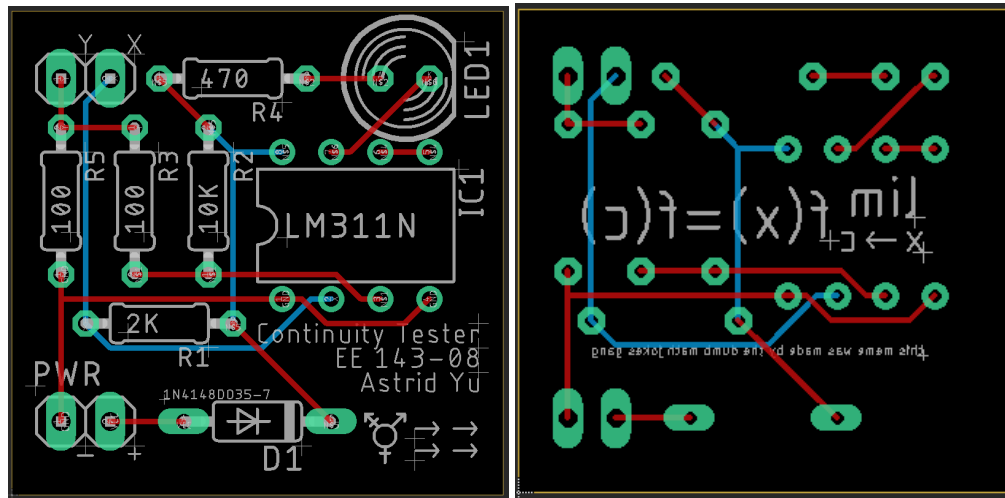

Figure 3: The PCB layout, top and bottom, with aesthetic modifications made to the silkscreen.
b) A PCB layout was generated from the schematic (Figure 3).